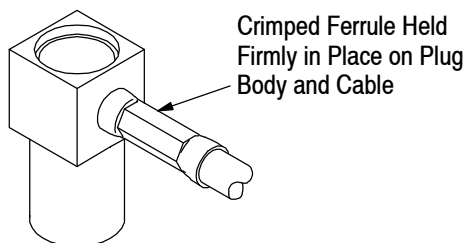

Figure 4
2. Insert the cable into the tail-end of the plug body until the center conductor is positioned in the slot of the contact. Make sure that the cable braid is positioned over the tail-end of the plug body as shown in Figure 4, Detail A.
4. Slide the ferrule over the cable braid until it is positioned against the plug body. See Figure 4, Detail B.
5. Crimp the ferrule using the appropriate tooling. A properly crimped ferrule is shown in Figure 4, Detail C.